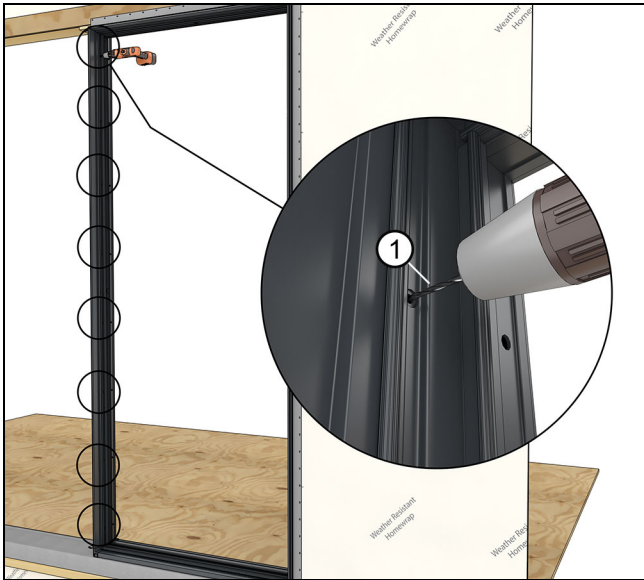

Figure 23
9. Using the pre-drilled installation holes in the frame as a guide, drill through the steel with a #23 bit. See Figure 23.